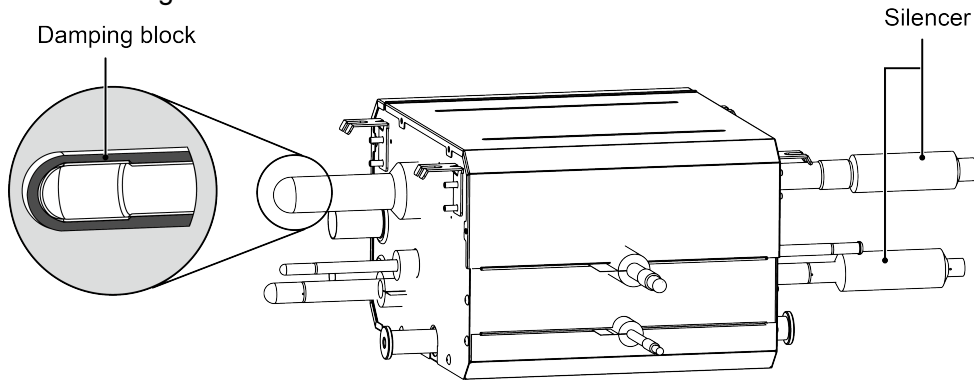

Fig.4.27
- 3) The low pressure gas pipe on the unconnected side should be wrapped by the damping block. See Fig.4.27.